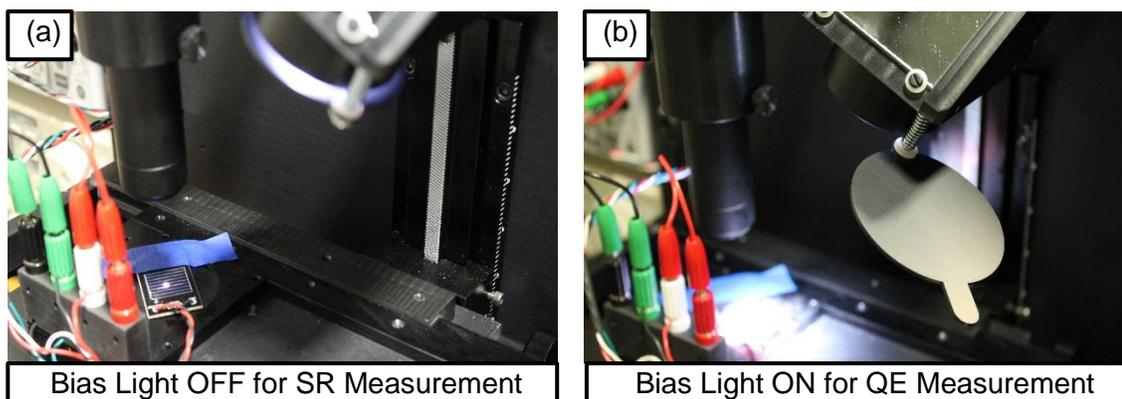

Figure 26: (a) Bias light ON for SR and (b) bias light OFF for QE.
3. For using the bias light vertically skip to the next step. If using the bias light on an angle, see Figure 26: (a) Bias light ON for SR and (b) bias light OFF for QE: